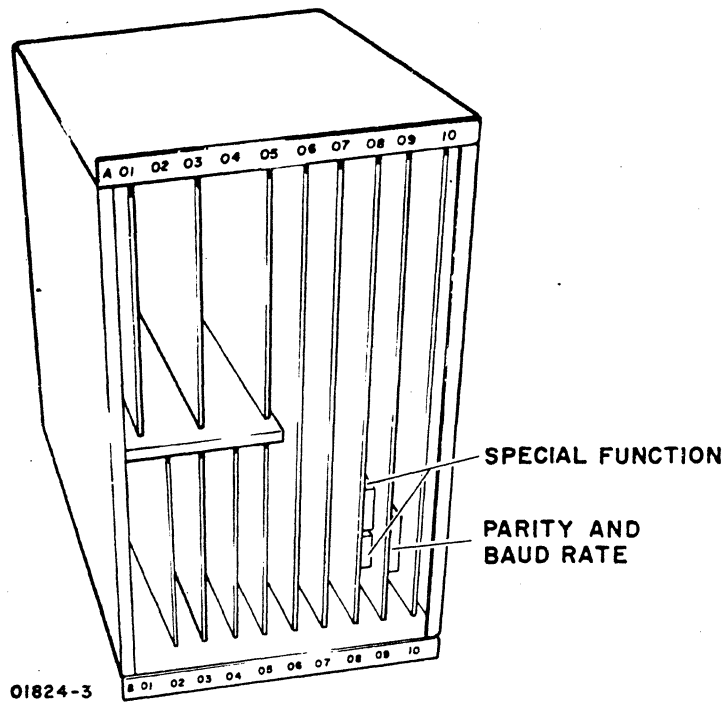

Figure 3-3. Internal Switches
- 3) Check switch settings (figure 3-3) with switch settings shown on decal on side of logic card rack (see figure CRT44 in Section 6 for decal). If baud rate is different than originally planned, refer to procedure CRT24 in Section 6 for instructions.
To uncrate the impact printer, refer to figure 3-3 and proceed as follows: